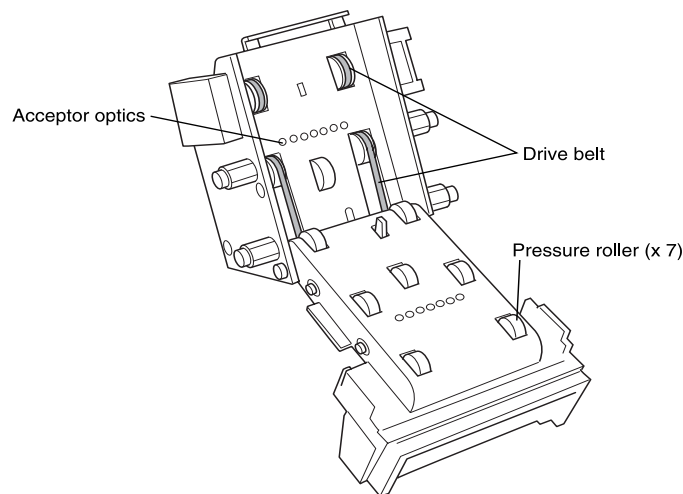
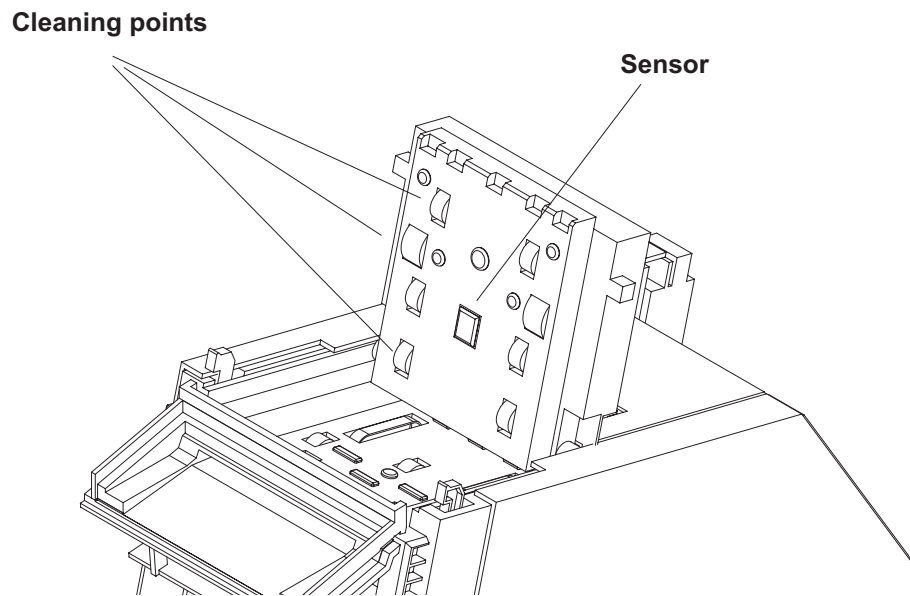

Figure 4-48 Banknote Acceptor Cleaning Points (GPT Model)
Figure 4-49 Banknote Acceptor Cleaning Points (JCM Model)
3. Clean the optic sensors, the pressure roller and drive belt in the banknote acceptor with a clean cloth moistened with a 90% isopropyl alcohol solution (see *Figure 4-48 Banknote Acceptor Cleaning Points (GPT Model)* and *Figure 4-49 Banknote Acceptor Cleaning Points (JCM Model)*).
4. Clean the optic sensors, the pressure roller and drive belt with a clean cloth moistened with a 90% isopropyl alcohol solution (see *Figure 4-48 Banknote Acceptor Cleaning Points (GPT Model)* and *Figure 4-49 Banknote Acceptor Cleaning Points (JCM Model)*).